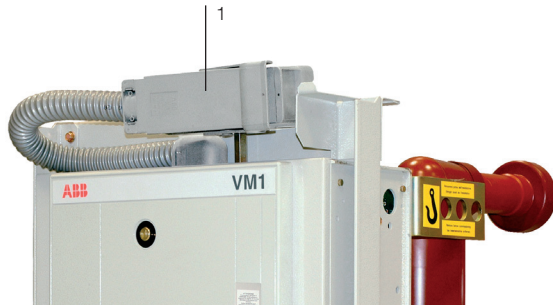

Fig. 2a
VM1/A/P circuit-breaker shipping containers are designed to be handled by fork lift (not supplied). Once removed from the shipping container, the circuit-breaker wheels are designed to move the circuit-breaker across a smooth, paved surface. Care must be taken not to damage the secondary plug (item 1, Figure 2a) when transporting, rolling, or handling the VM1/A/P circuit-breakers.
Connect the plug (1 - Fig. 2a) with the secondary disconnectors (Fig. 6).
Remove the plug (1 - Fig. 2a).